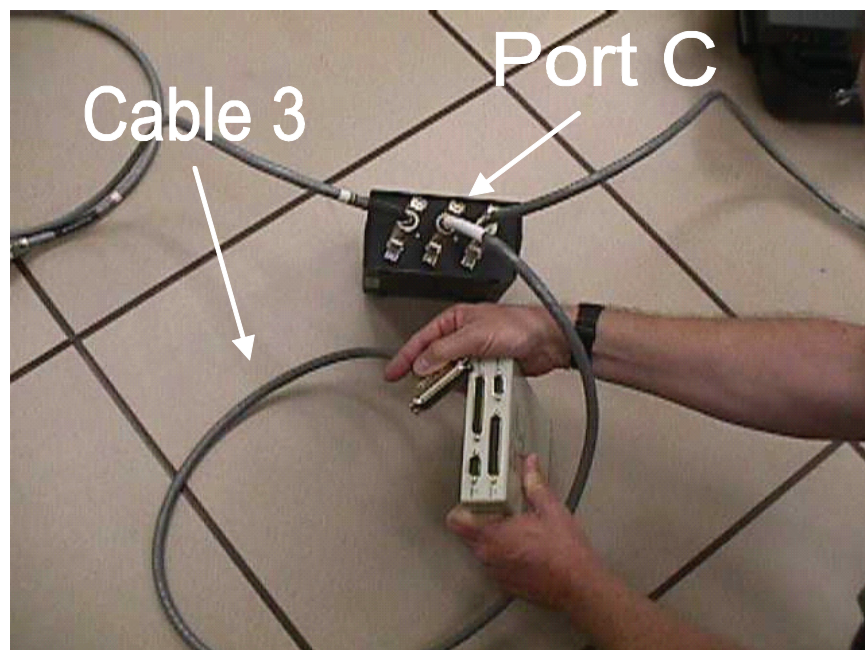

Figure 22. Cable 3.
- Cable 3 contains a 37-pin male connector on each end (Figure 22). One 37-pin male connector plugs directly into Port C on the rear of the switchbox; the other end, a 37-pin male connector, connects directly into the KIV Red Port located on the rear of the KIV. NOTE: Always handle the KIV by the sides to avoid accidental “zeroizing.”